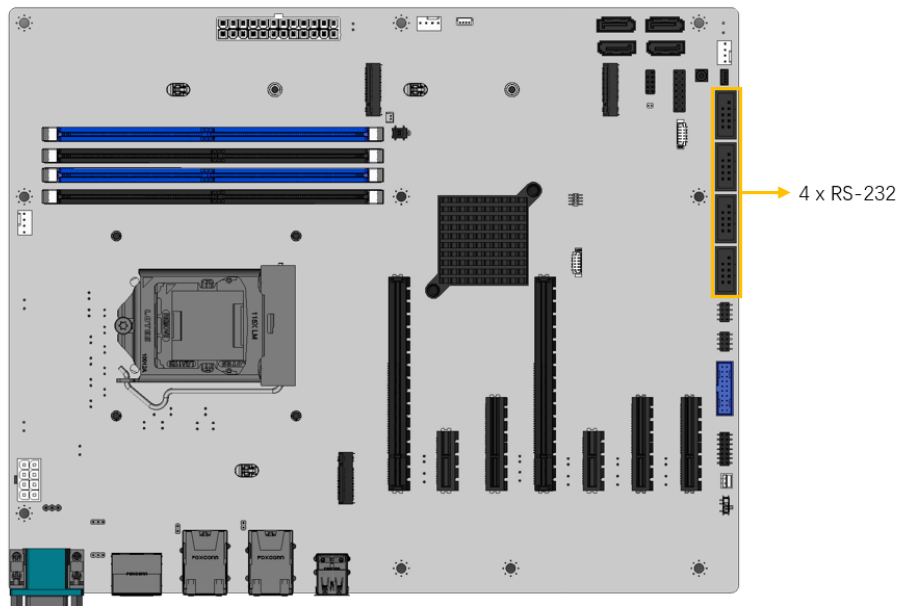

Figure 3-25: RS-232 Connector Location
- CN Location:** See Figure 3-25